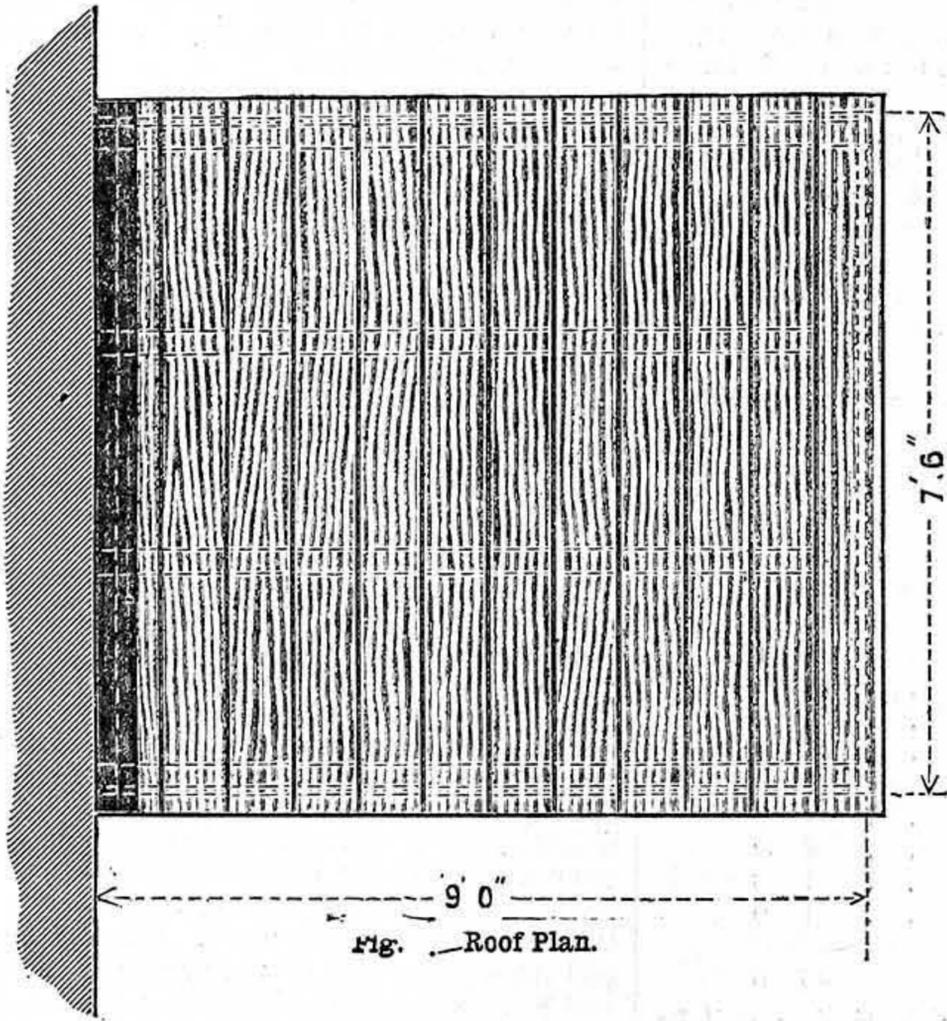
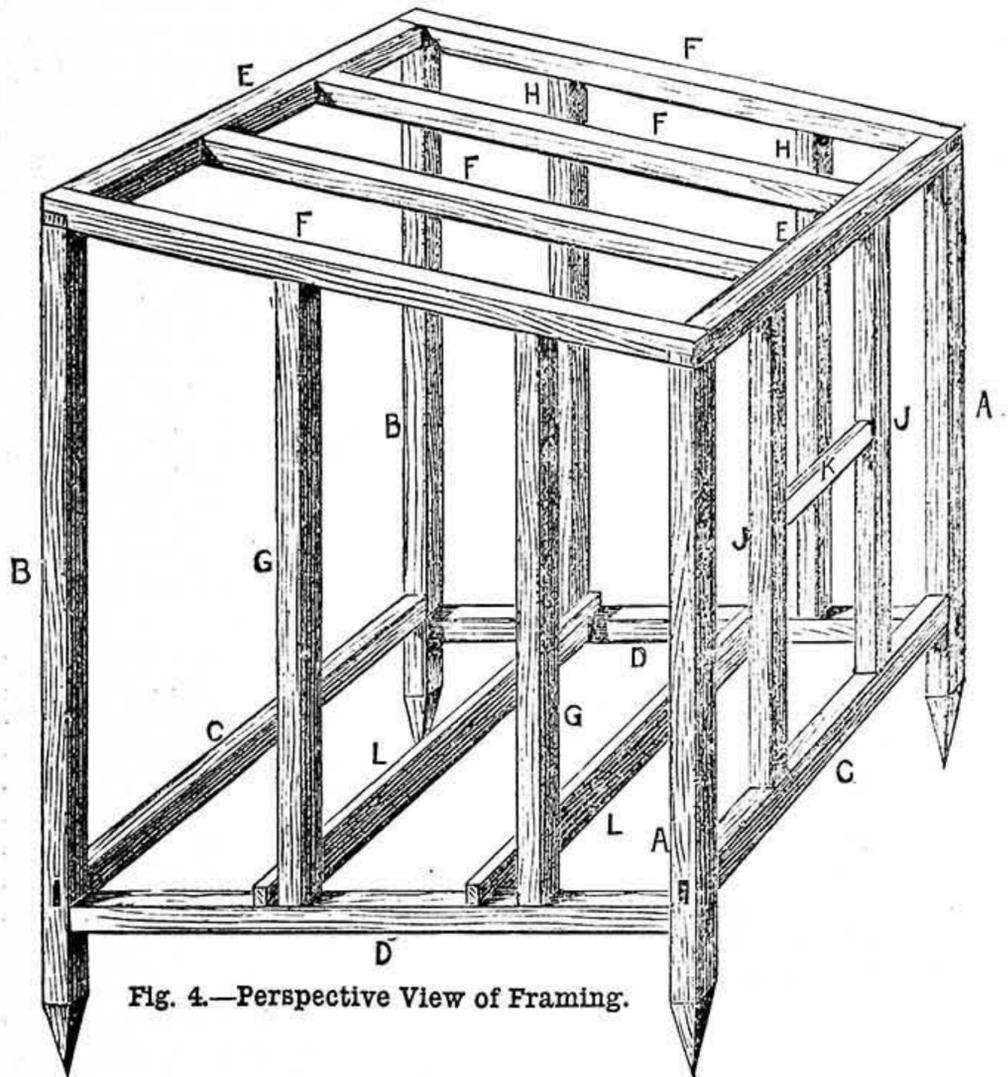

Fig. 1.—Roof Plan.
Fig. 4.—Perspective View of Framing.
*General Views of House.*—The general construction of the house is shown in Figs. 1, 2, 3, 4. Fig. 1 is a roof plan, Fig. 2 a side elevation, Fig. 3 a front elevation, and Fig. 4 a perspective of the main framework, given to assist amateurs to a clear understanding of the method of its construction. It is a lean-to shed, a wall occupying one side. In my case the roof slopes towards the wall, but as in most instances it would be more convenient to allow it to slope away from the wall, I show it thus in the sketches. The low wall against which my house leans happens to carry an oblong rain-water tank on the top, and the rain runs off the roof into the tank; hence the reason why I so built it.
*Main Framings.*—The main frames of the house are made of spruce quartering, having a cross section of 3 in. by 2½ in. They are these (Figs. 1, 2, 3, 4):—